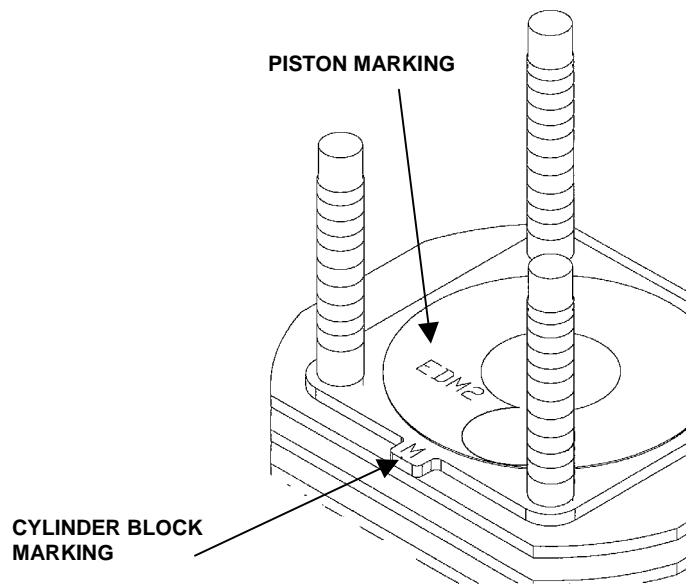

Figure 8. Piston Orientation.
2. Ensure that the marking on the piston is on the same side as the marking on the cylinder block. See Figure 8.